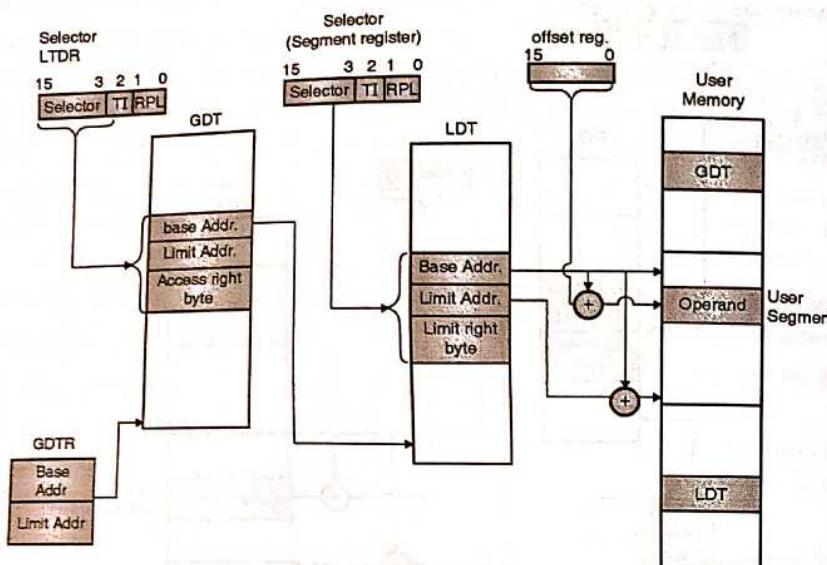

Fig. 12.6.8 : Segment translation mechanism in protected mode for local memory access
12.6.3(C) Accessing Local Memory Location using Local Descriptor Table
- This access of local memory or segment translation mechanism for local data is as shown in Fig. 12.6.8.